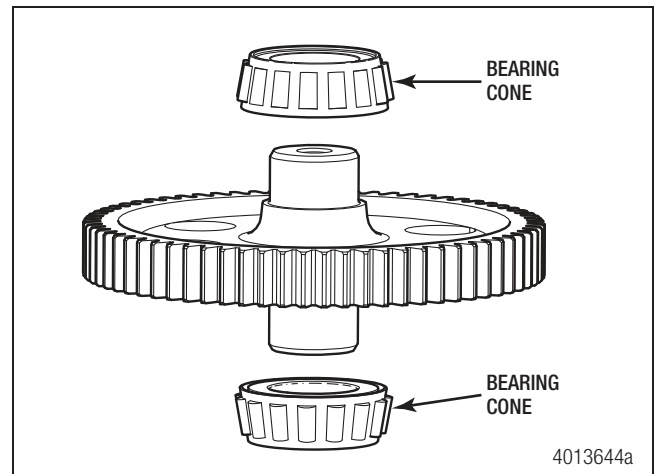

Figure 6.5
1. Install a bearing puller on the bearing cone. Figure 6.5.